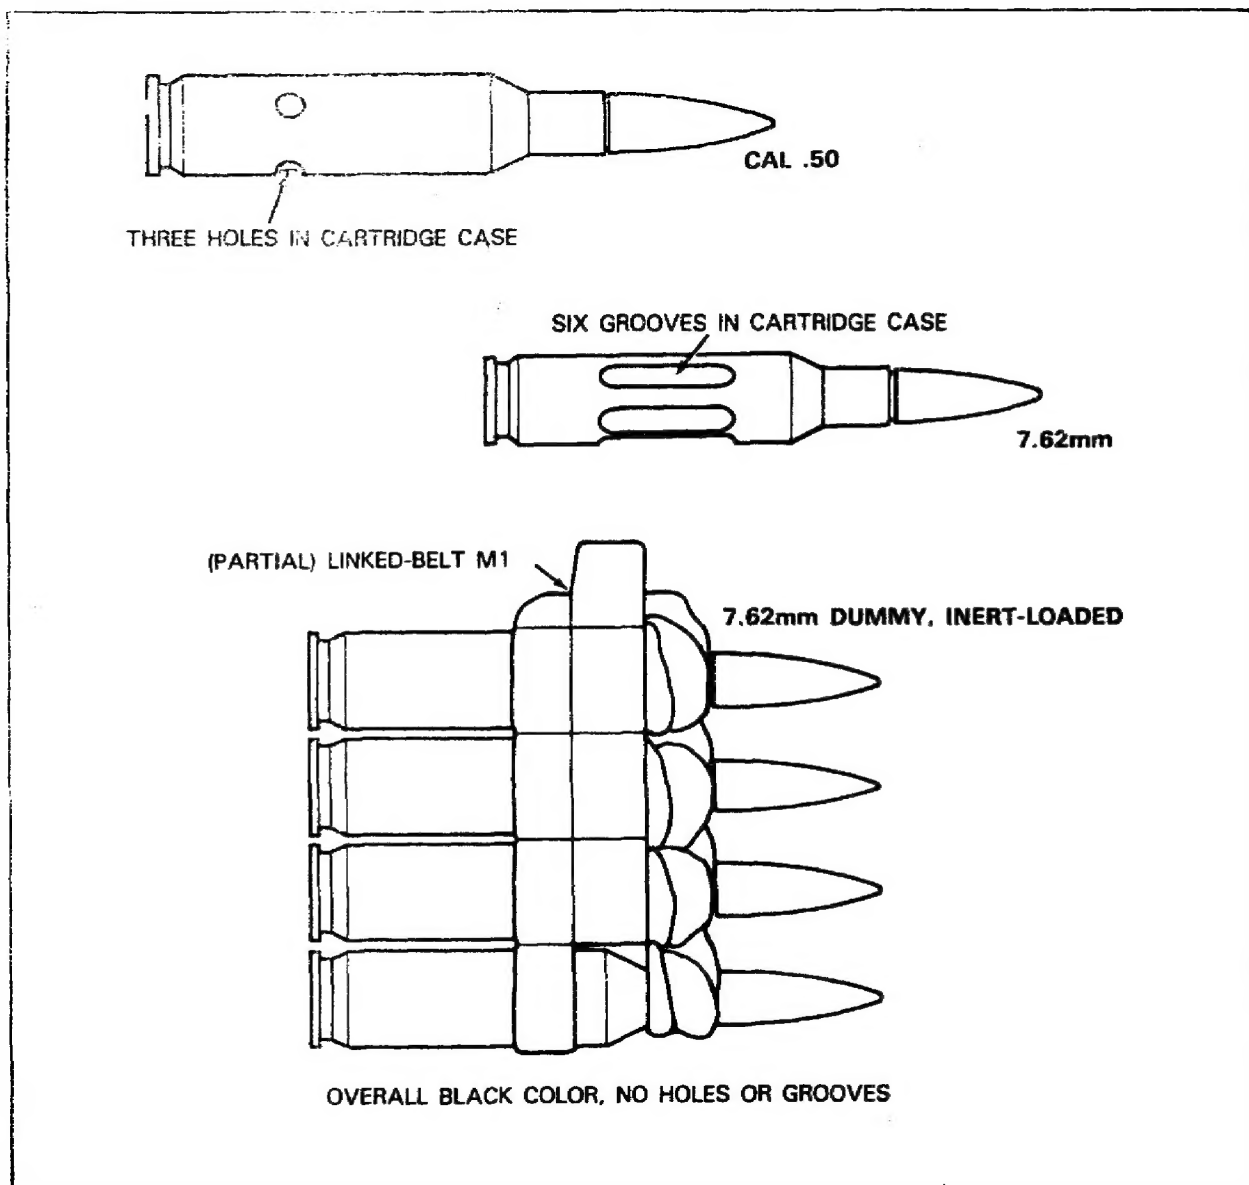

Figure 6. Identification of Dummy Cartridges.
**Dummy.** The dummy cartridge is used for practice in loading weapons and testing weapon functions. These cartridges are completely inert. A dummy cartridge is easily identified by the six grooves in its cartridge case (7.62mm and 5.56mm) or the three holes drilled in its cartridge case (caliber .45 and caliber .50). See Figure 6. Dummy cartridges for testing weapon functions are called dummy, inert-loaded, because they are filled with a simulated propellant to make them the same weight as a service cartridge. They are identified by their overall black finish; they have no grooves or holes.